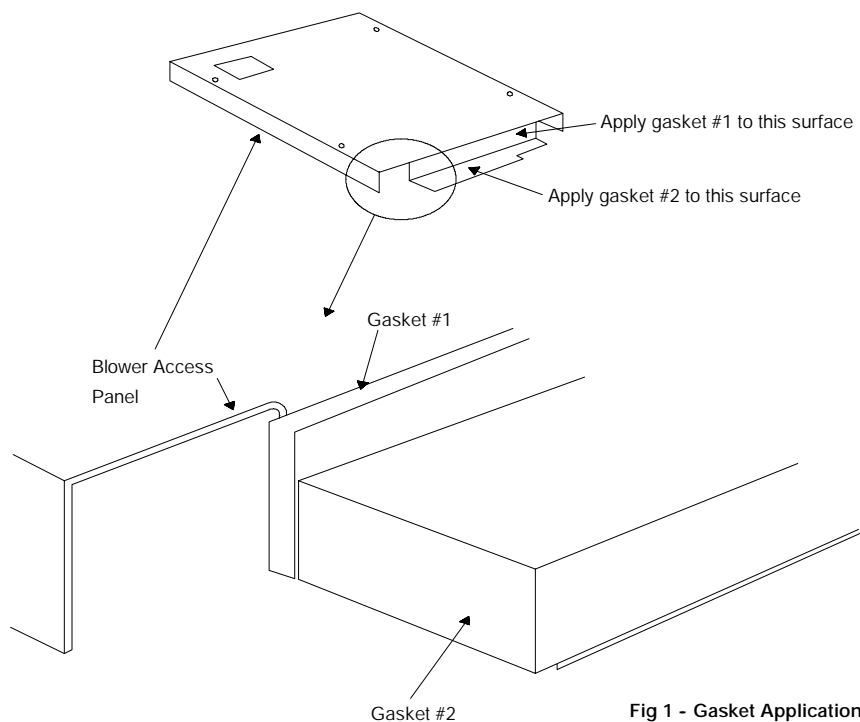

Fig 1 - Gasket Application on the Blower Access Panel
2. Apply gasket 1 referring to Fig. 1. Center in the first flange with slight overhang on both ends. Cover the flange completely.
3. Apply gasket 2 referring to Fig. 1. Center on the second flange with slight overhang on each end. Align the notch with the flange notch. This gasket will have slight overhang of the flange edges.